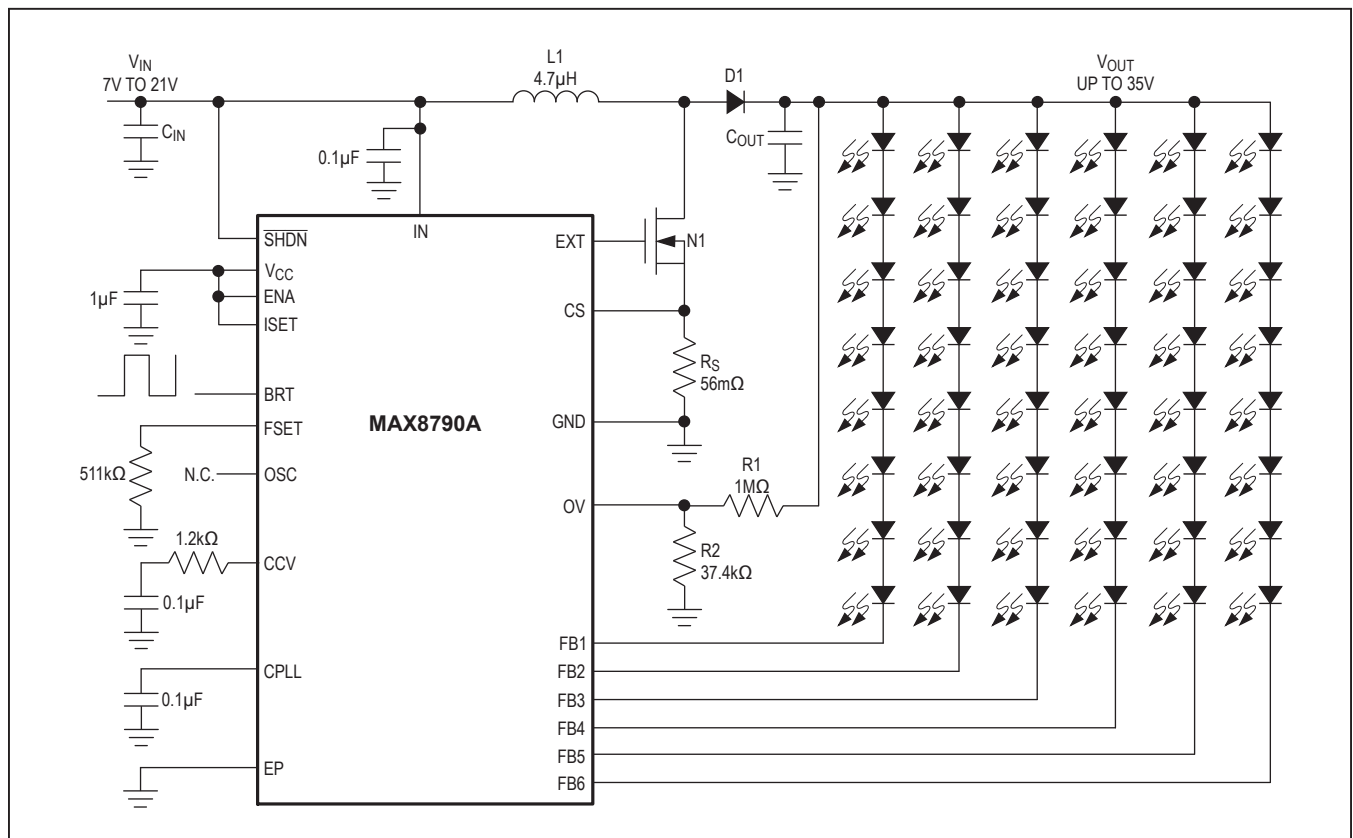

Figure 1. Typical Operating Circuit
Electrical Characteristics (continued)(Circuit of Figure 1. $V_{IN} = 12V$, $V_{SHDN} = V_{IN}$, $CCV = 0.1\mu F$, $T_A = -40^{\circ}C$ to $+85^{\circ}C$, unless otherwise noted.) (Note 2)
To protect the step-up converter when the load is open, or the output voltage becomes excessive for any reason, the MAX8790A features a dedicated overvoltage feedback input (OV). The OV pin is connected to the center tap of a resistive voltage-divider from the high-voltage output (see Figure 1). When the MAX8790A is powered up, if none of the LED strings on FB1–FB6 are connected to the step-up converter output, the step-up converter regulates the output voltage to $V_{\text{OUT}} = 1.23\text{V}(1 + R1 / R2)$. When V_{OV} exceeds 1.23V, a comparator turns off N1. The step-up converter switch is reenabled after the output voltage drops below the protection threshold.